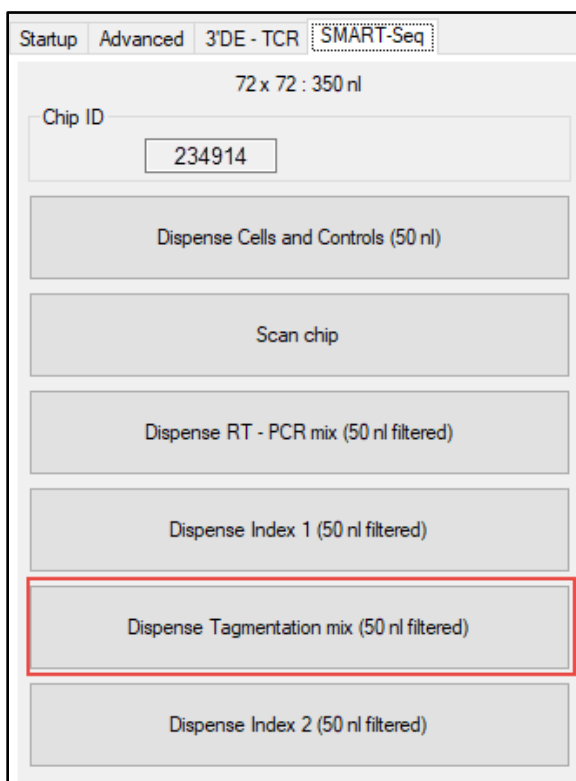

Figure 18. Using CELLSTUDIO software to dispense the Tagmentation mix.
- At step 6, click the [Dispense Tagmentation mix] button (Figure 18).